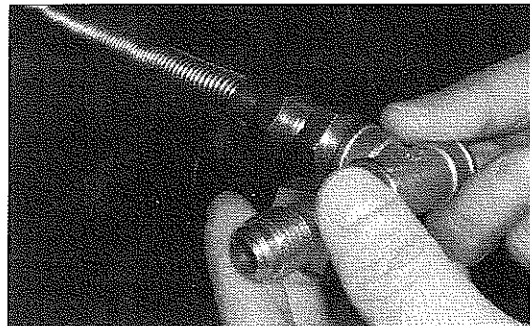

Fig 17
24. Attach the other Connector 3/8" NPT x 5/8" UNF provided in the kit to the Tee fitting as shown. Tighten with wrench. (See Fig. 17)